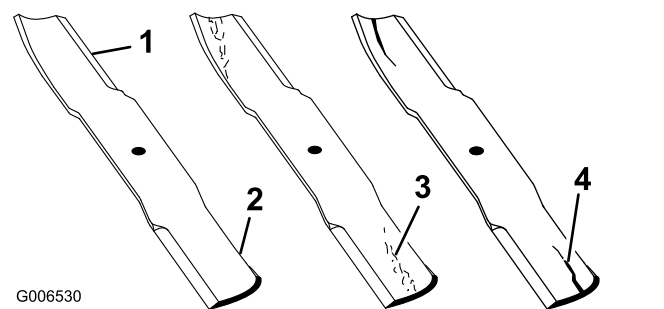

Figure 94
- Inspect the cutting edges (Figure 94).
- If you notice any cracks, wear, or a slot forming in this area, immediately install a new blade (Figure 94).